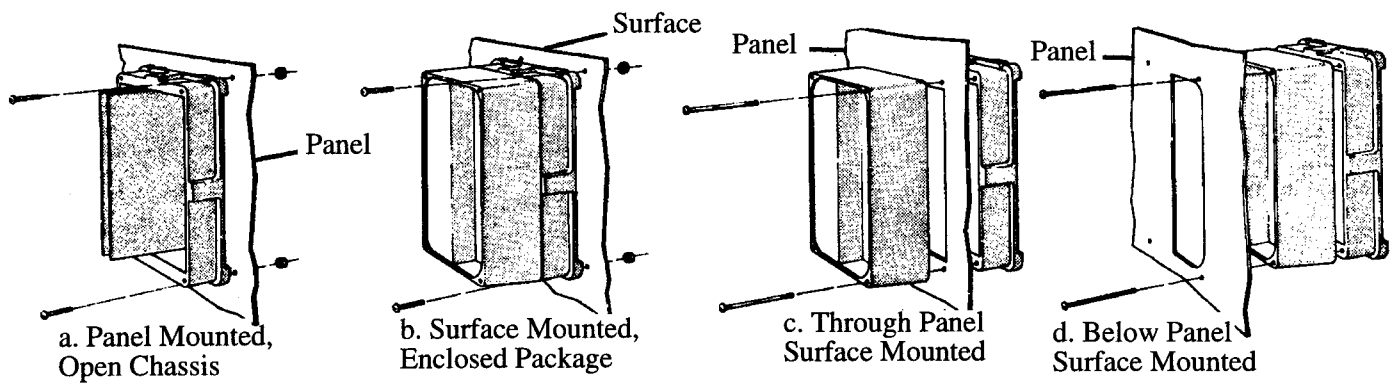
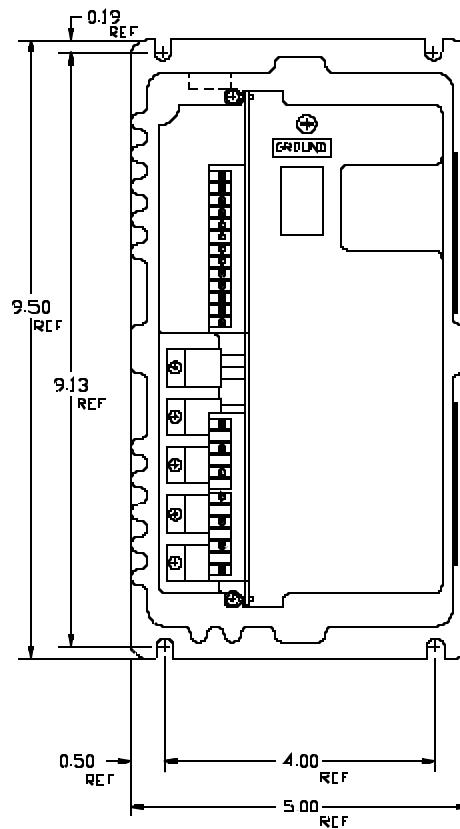

FIGURE 2. CONTROLLER MOUNTING CONFIGURATIONS, MODELS 2611 AND 2612
FIGURE 3. CONTROLLER MOUNTING DIMENSIONS, MODELS 2611 AND 2612
1. The controller may be surfaced mounted or panel mounted as shown in Figure 2, page 8. Mount the controller. Mounting dimensions are shown in Figure 3, page 8.